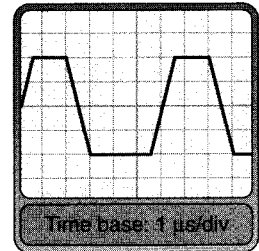

FIGURE 19.52
8. Determine the values of PW and  $T_C$  for the waveform in Figure 19.52.
10. Calculate the duty cycle of the waveform in Figure 19.52.